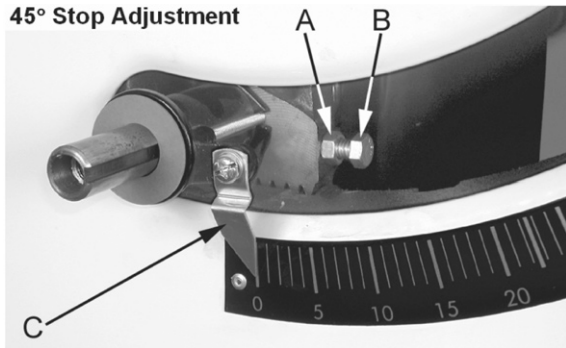

Figure 32
5. If blade is not at 90 degrees, open the motor cover door, loosen lock nut (A, Fig. 32) and turn adjusting stop screw (B, Fig. 32) on the front trunnion in, or out. The adjusting stop screw should stop against the front trunnion bracket when the blade is 90° to the table.
6. Tighten the lock nut (A, Fig. 32).